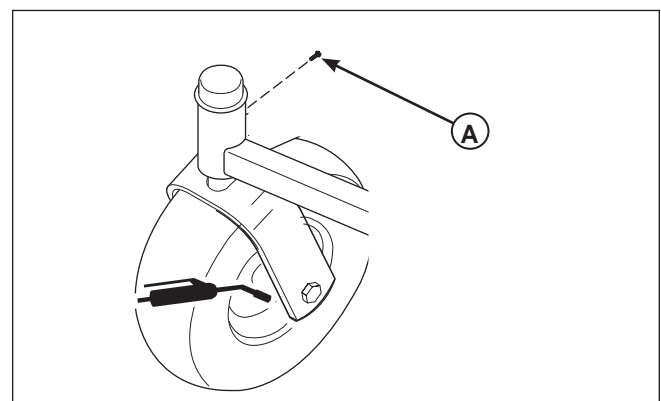

Figure 20. Front Caster & Wheel
1. Remove the 1/4-28 bolt (A, Figure 20) screwed into the caster and install a 1/4-28 grease fitting.